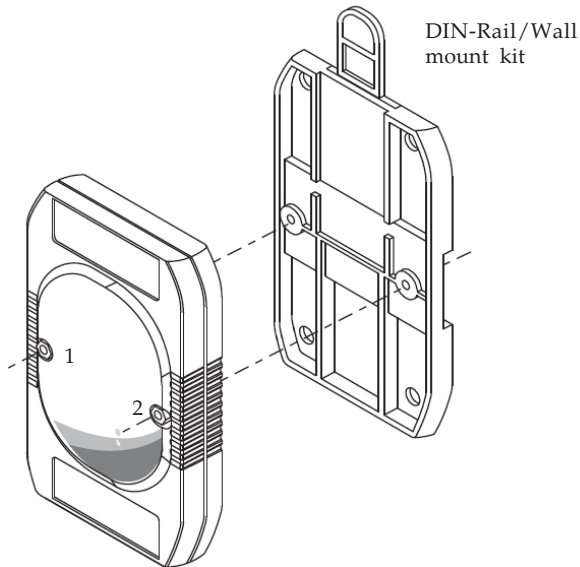

Figure 4
1. Place the DIN-Rail/Wall Mount Kit onto the *CyberX Industrial Serial Media Converter*, it is keyed to ensure proper alignment, see **Figure 4**.
2. Turn screws 1 & 2 in a clockwise direction to secure the DIN-Rail/Wall Mount Kit to the converter, see **Figure 4**. Do not overtighten the screws to avoid damage to the converter and/or wall mount kit.